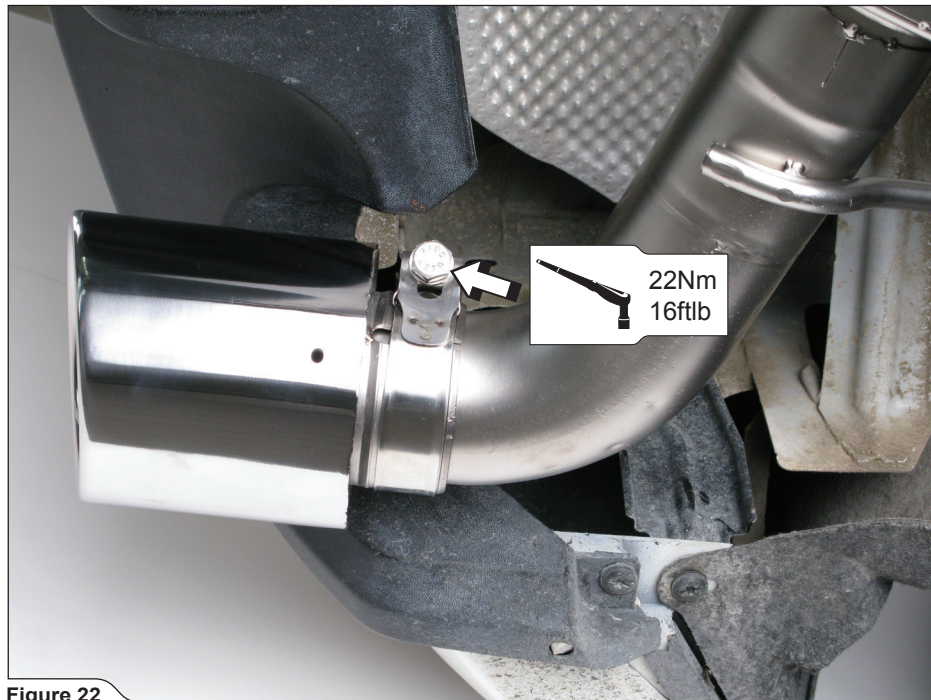

Figure 22
13. **For Tail-Pipes, Slip-On and optional Link-Pipe:** tighten Tail Pipe clamps to a specified torque on both sides of the vehicle (**Figure 22**).